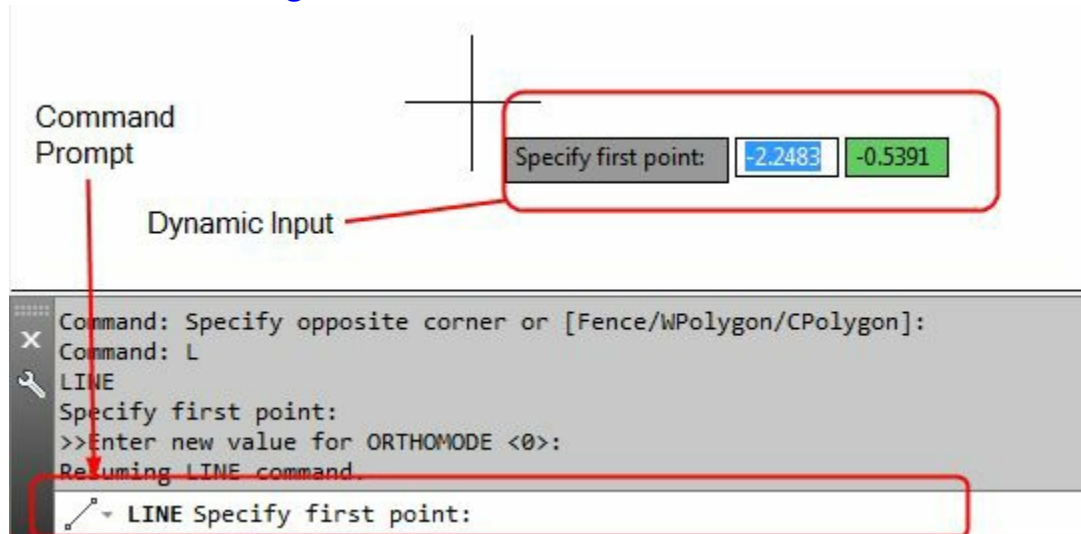

Figure-49. Command prompt
- To start any command or specify value of any variable click on it in the box. The respective options will be displayed in the command window and you will be prompted to specify the desired values. For example, type **L** at the command prompt in the **Command Window** and click on the **Line** tool at the top in the command box. You will be prompted to specify the position of the starting point of the line; refer to Figure-49. You will learn more later in this book. Press **ESC** to exit the tool.